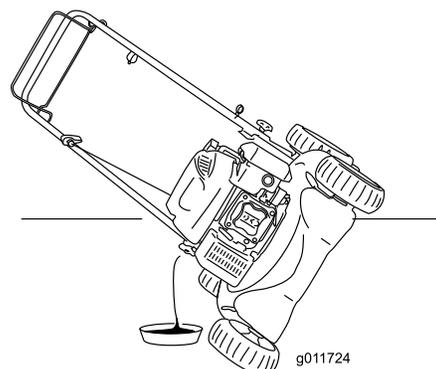

Figure 25
5. Tip the mower onto its side, with the dipstick down, to drain the used oil out through the oil fill tube (Figure 25).